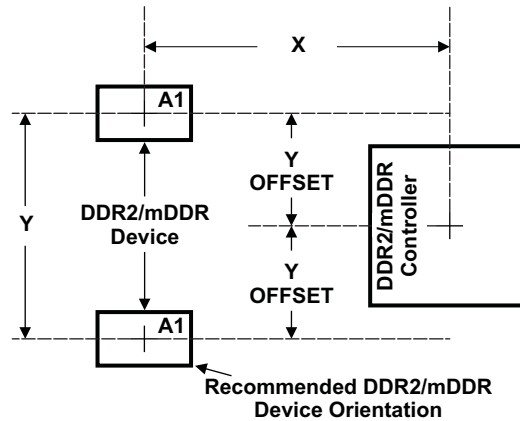

Figure 6-18. Device and DDR2/mDDR Device Placement
Figure 6-17 shows the required placement for the device as well as the DDR2/mDDR devices. The dimensions for Figure 6-18 are defined in Table 6-28. The placement does not restrict the side of the PCB that the devices are mounted on. The ultimate purpose of the placement is to limit the maximum trace lengths and allow for proper routing space. For single-memory DDR2/mDDR systems, the second DDR2/mDDR device is omitted from the placement.
- (1) See Figure 6-18 for dimension definitions.
- (2) Measurements from center of device to center of DDR2/mDDR device.
- (3) For single memory systems it is recommended that Y Offset be as small as possible.
- (4) w = PCB trace width as defined in Table 6-27.
- (5) Non-DDR2/mDDR signals allowed within DDR2/mDDR keepout region provided they are separated from DDR2/mDDR routing layers by a ground plane.